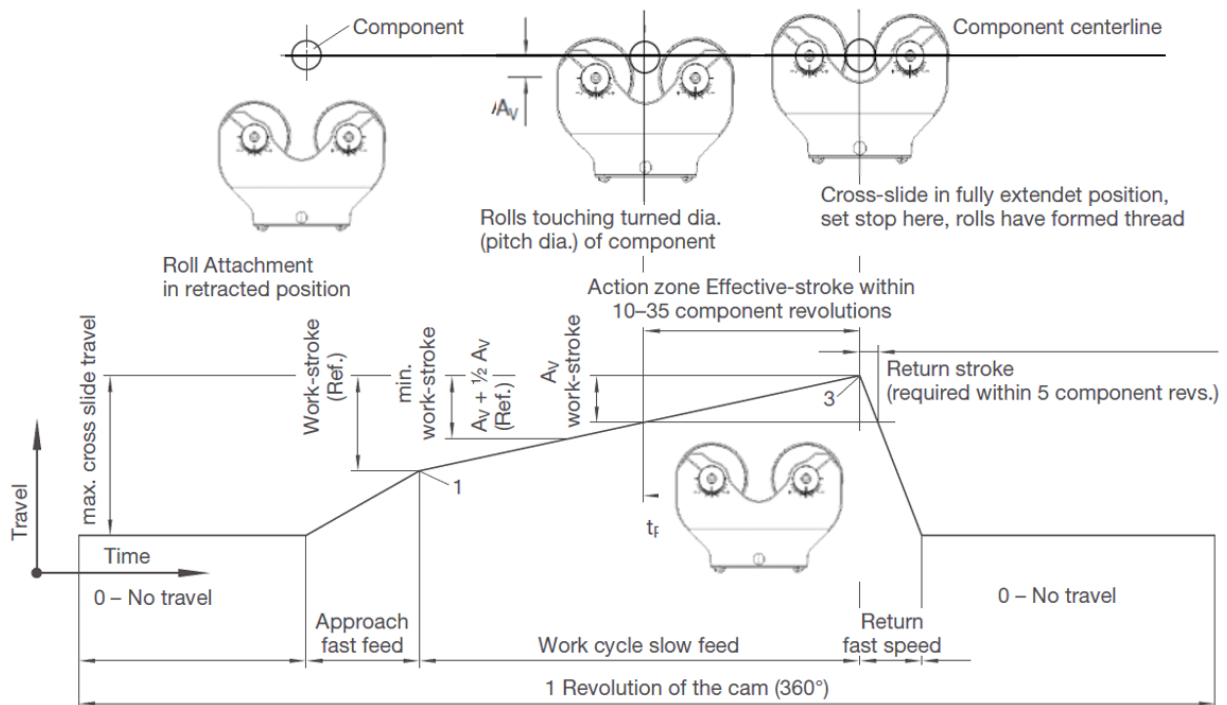

Figure 16: The tangential *rolling process*
Each step is shown in figure 16. Make sure that the fast feed approach is finished before the beginning of the work cycle. The working feed is the theoretical travel “AV” of the *rolling system* from the moment of initial contact of the rolls on the workpiece diameter all the way up to the end position of the work cycle. The working feed (AV) is shown in the table below. The precise “Av” value of an specific application is written on the setting gauge. The actual working feed should be completed within $W = 20$ workpiece rotations-